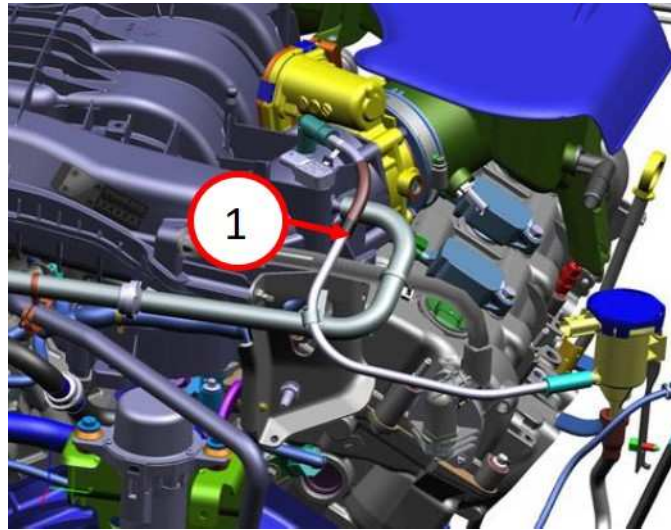

Fig. 2
2. Install the new purge valve assembly. Re-route purge line behind brake boost tube (Fig. 2) .